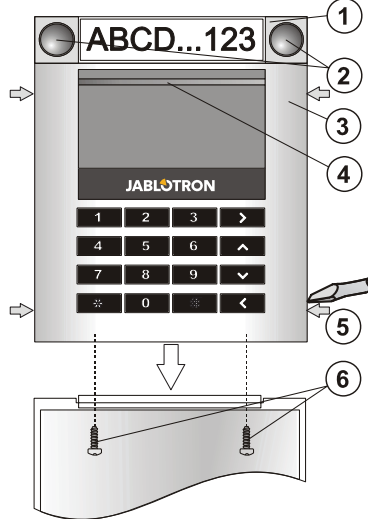

Figure: 1 – control segment; 2 – segment buttons; 3 – keypad module; 4 – backlit activation button; 5 – tabs for opening; 6 – cover screws
1. Gradually press the four tabs (5) on the sides (see Fig 1) and release the keypad from the plastic base.
6. Connect the bus cable to the bus terminals (10).
7. Connect the segment wires to the internal connector of the keypad (8).